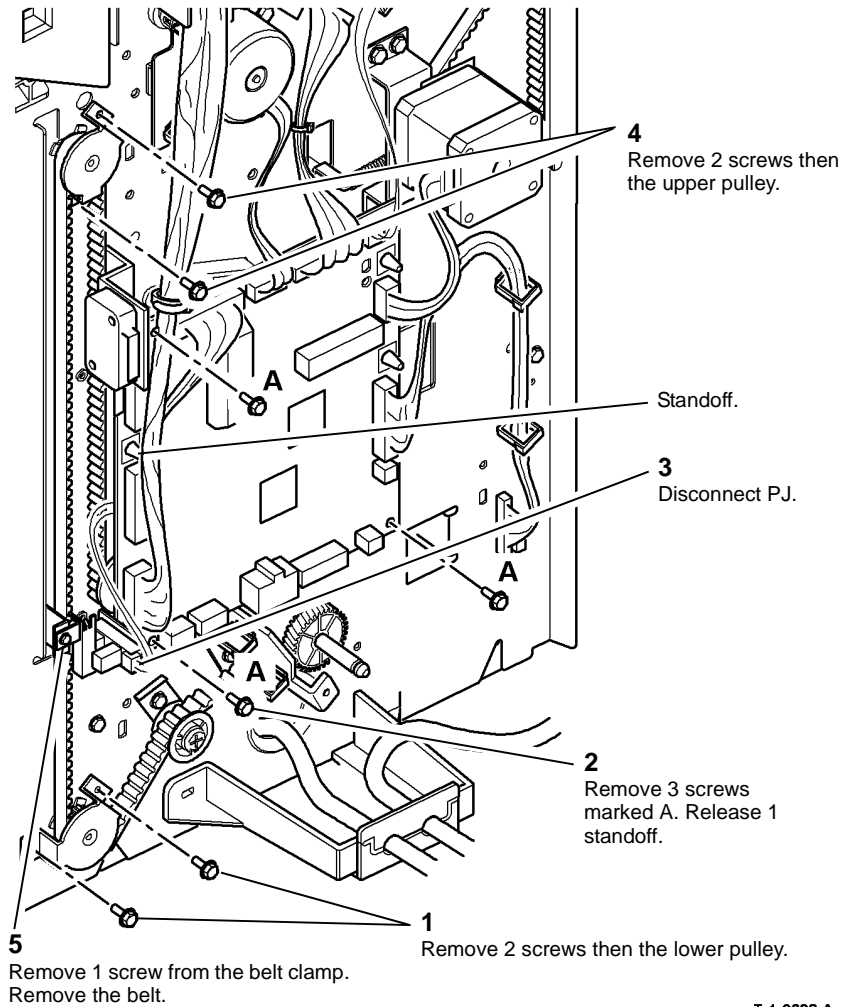

Figure 2 Bin 1 drive belt removal (rear)
6. Remove the rear bin 1 drive belt, Figure 2.